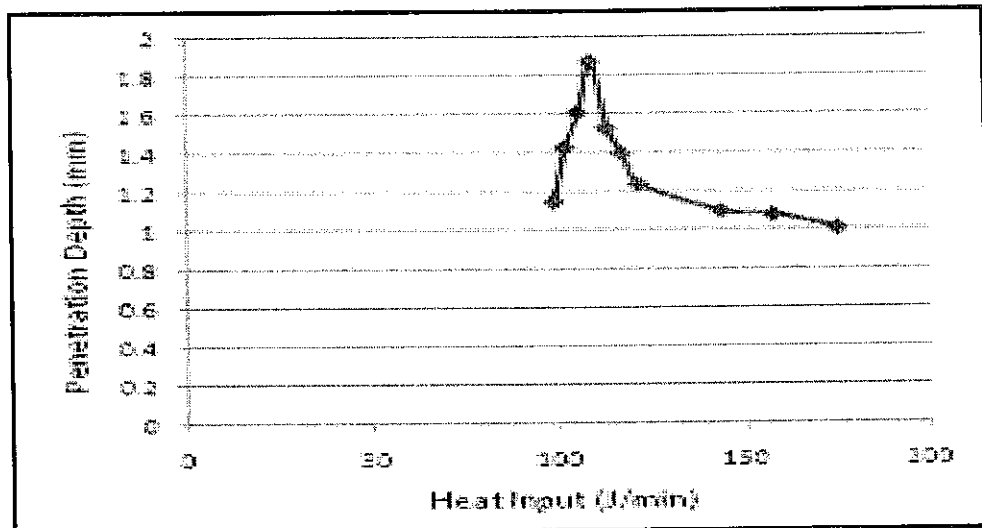

Figure 1: Effect of heat input on penetration
- (a) Describe the results based on Figure 1 and identify the minimum value of penetration. (7 marks)
- (b) Identify the minimum developer dwell time and list **FOUR (4)** defects that can be inspect using magnetic particle inspection. (8 marks)
- (d) List **FOUR (4)** types of non-destructive testing methods that can inspect center line crack and base metal crack. (4 marks)